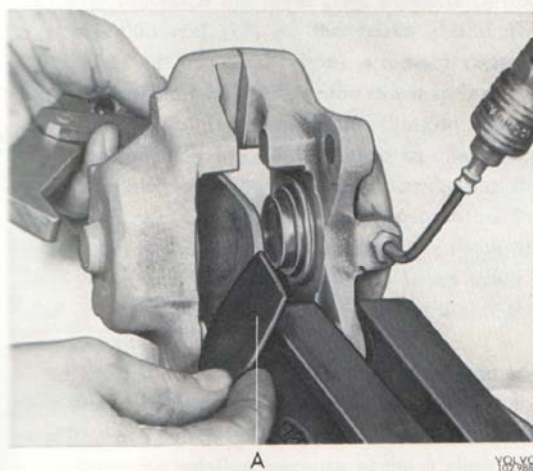

Fig. 5-10. Removing the piston
3. Fit the tool (Fig. 5-10) with a suitable rubber seal "A" for the free cylinder. Press out the piston. Remove the piston and tool.